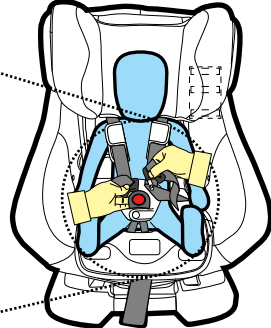

Figure 3
**Step 3:** Place the child in the restraint with legs either side of the buckle, place the harness over the shoulders and hips (refer Figure 3).